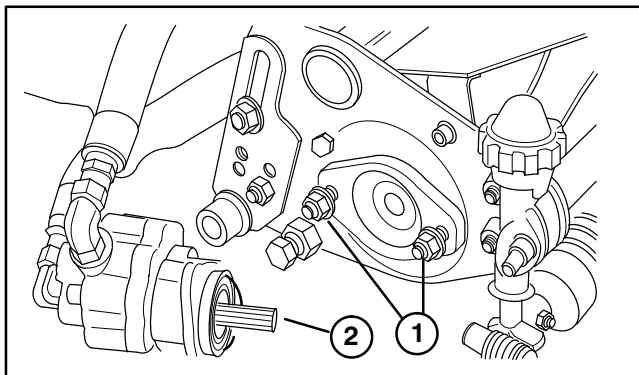

Figure 7
3. Assemble the mount nuts for the reel drive motor to each cutting unit. Leave approximately 1/2 in. of threads exposed on each mount stud (Fig. 7).
4. Remove the protective covers from the cutting units and the reel drive motor shafts. Coat the spline shaft of the motor with clean grease and install the motor by rotating the motor clockwise so the motor flanges clear the studs. Rotate the motor counterclockwise until the flanges are encircling the studs and tighten the mounting nuts (Fig. 7).